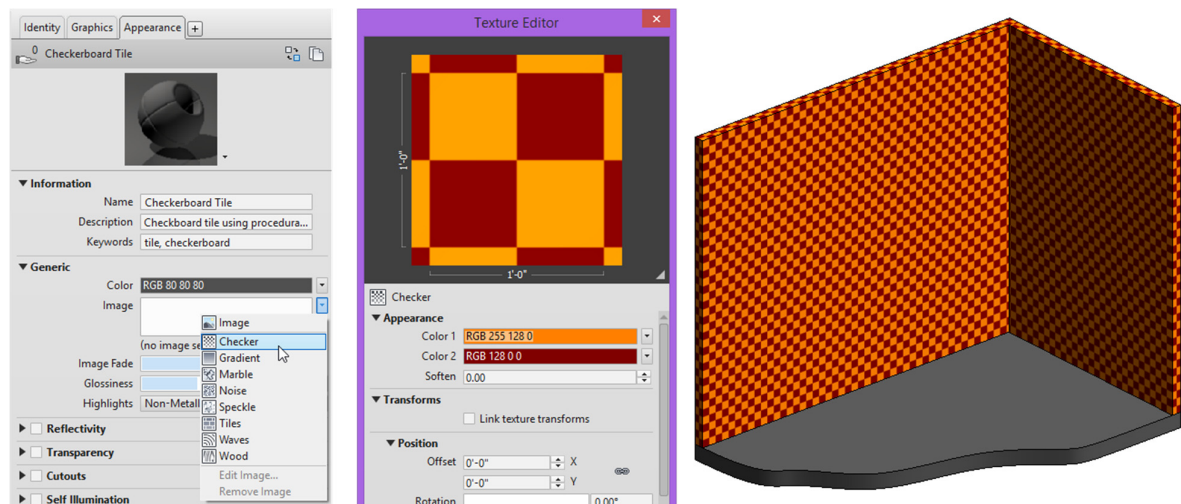

Figure 11—Add a checkboard pattern to the material
- ⇒ Click the Done button, and then OK three times (see Figure 11).